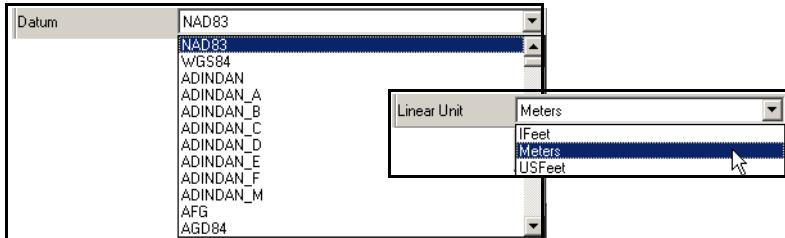

Figure 3-90. Datum and Linear Unit Lists
- If the *Lat,Lon,H* coordinate type is selected, set the Datum and Linear units (Figure 3-90).